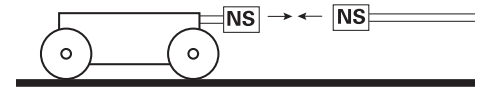

Figure 2
- When the magnets were oriented one direction, the attractive magnetic force caused the car to move toward the stick (figure 2).